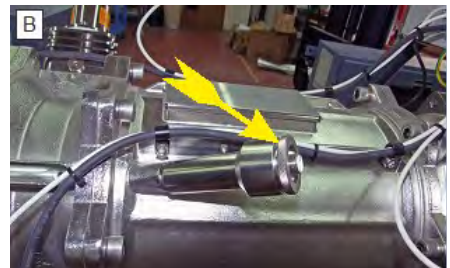

Figure 10-25: Removing a Sensor B (Generic View)
- Step 11.** To re-install a **fixed sensor**, tighten the threaded cap back onto the housing, Figure 10-25.